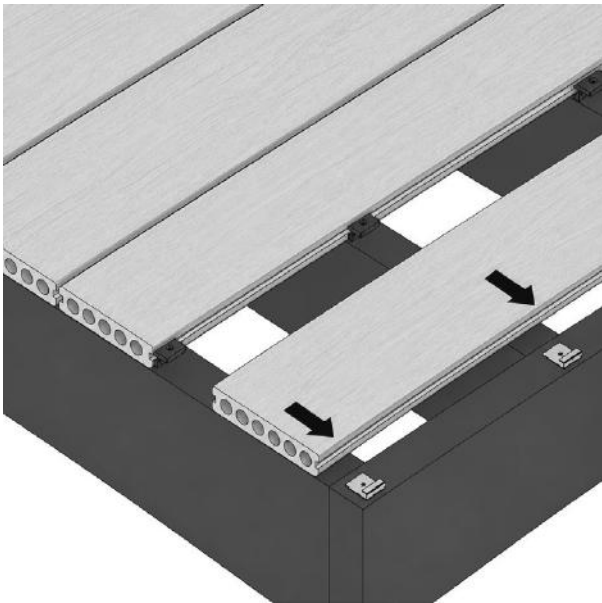

FIG. 8 – 6 MM METHOD – LAST BOARD CLIPPED TO STARTER CLIPS
- Clip the last decking board to these starter clips (fig. 8)